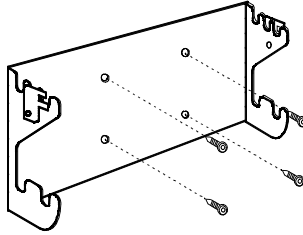

Figure 11
1. Screw the mounting plate to the wall with the 4 supplied screws (figure 11).